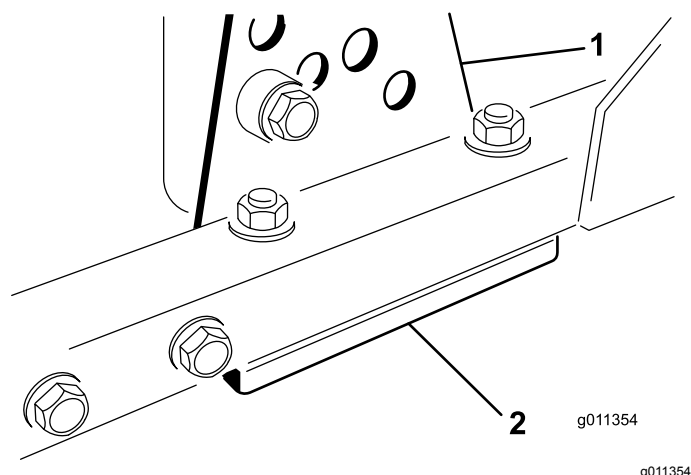

Figure 82
1. Remove the height-of-cut bracket, (front, left, or right) from the deck frame (Figure 82).
2. Adjust 1.5 mm (0.060 inch) shims and/or 0.7 mm (0.030 inch) shim between the deck frame and bracket to achieve the desired height setting (Figure 82).